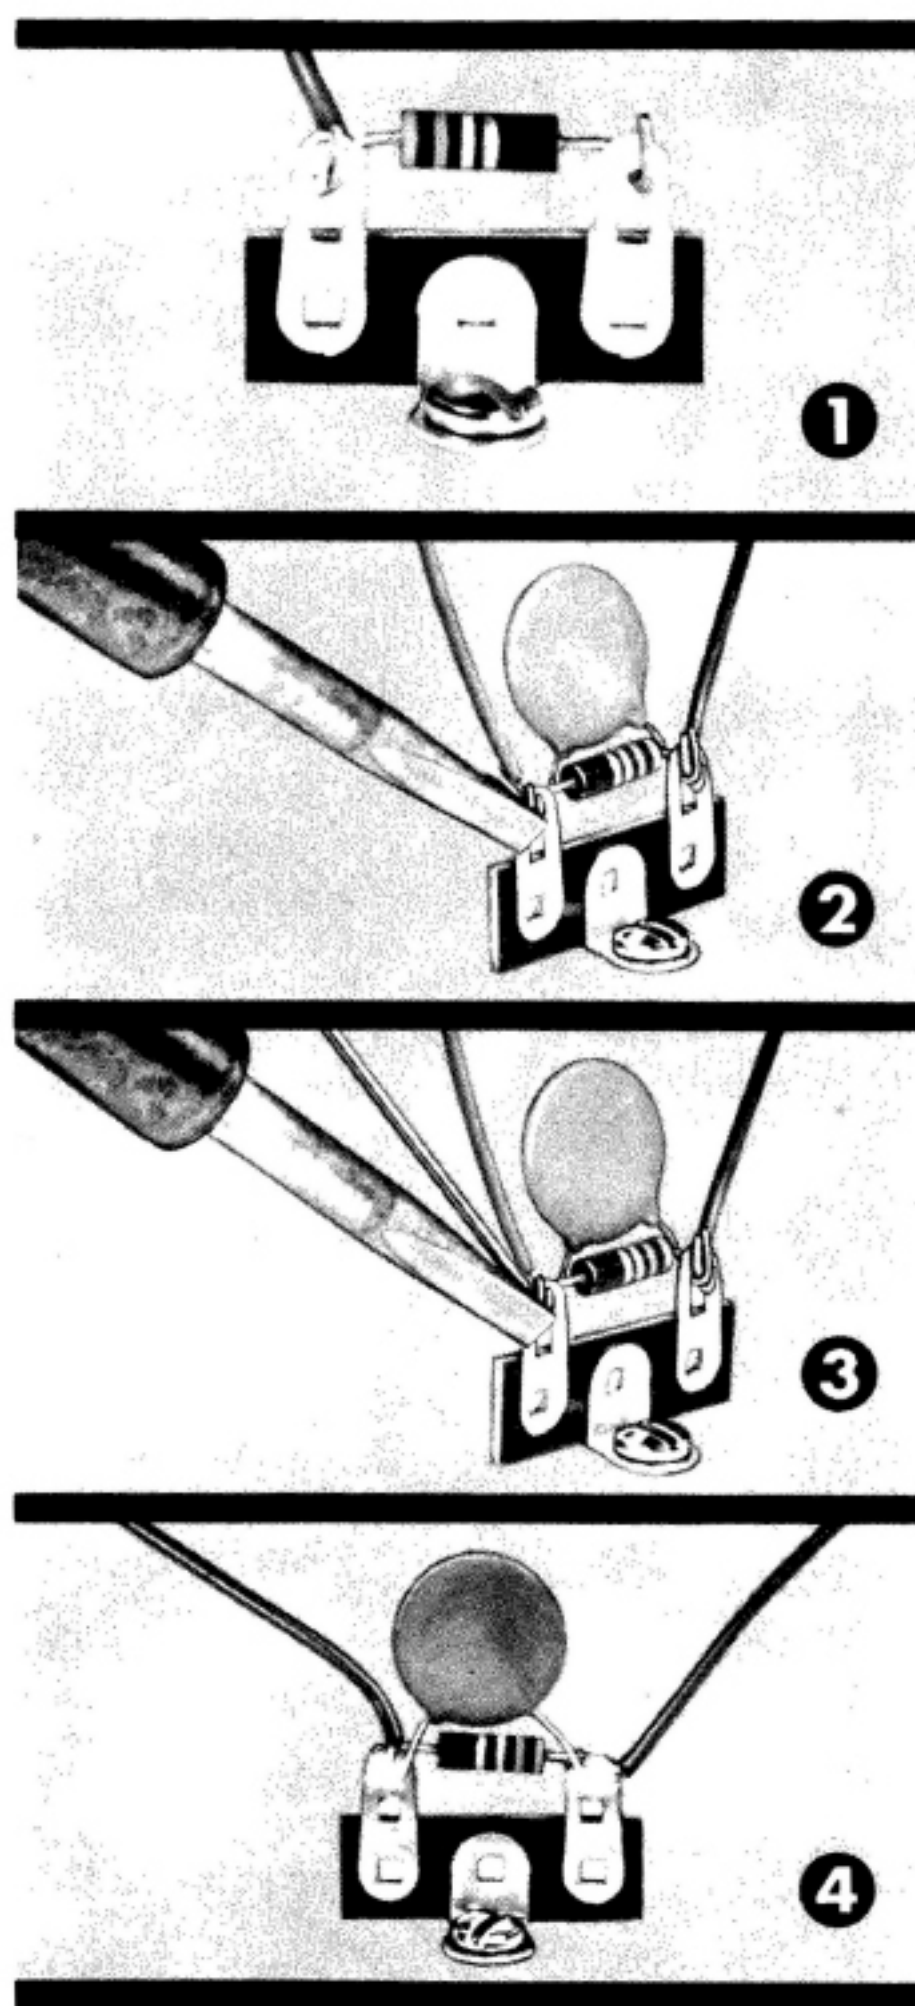

FIGURE 1
**To make** a good mechanical connection, simply insert the end of the lead through the hole in the terminal; wrap the lead around the terminal and cut off the excess wire. Clamp the connection with your long-nose pliers. Figure 1 illustrates a connection that has been properly made.